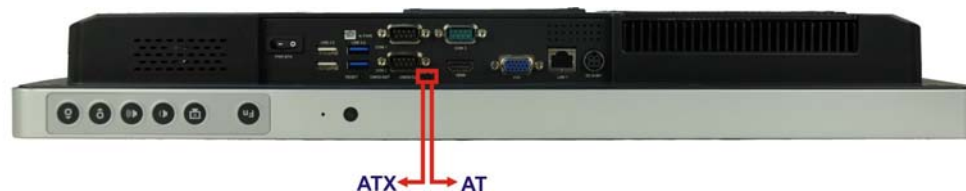

Figure 4-13: AT/ATX Switch Location
AT or ATX power mode can be used on the AFL2-W21A/AB-H61. The selection is made through an AT/ATX switch located on the bottom panel (Figure 4-13). To select AT mode or ATX mode, follow the steps below.
Step 1: Locate the AT/ATX switch on the bottom panel (**Figure 4-13**).